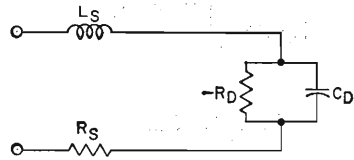

Figure 109. Equivalent circuit for a tunnel diode biased in the negative-resistance region.
Fig. 109 shows the form of the equivalent circuit when the diode is
The figure of merit F of a tunnel diode is equal to the reciprocal of $2\pi RC$, where R and C are the equivalent values $-R_D$ and C_D , respectively, shown in Fig. 109. This expression has two very useful interpretations: (1) it is the diode gain-bandwidth product for circuits operating in the linear negative-resistance region of the characteristic, and (2) its reciprocal is the diode switching time when the device is used as a logic element.